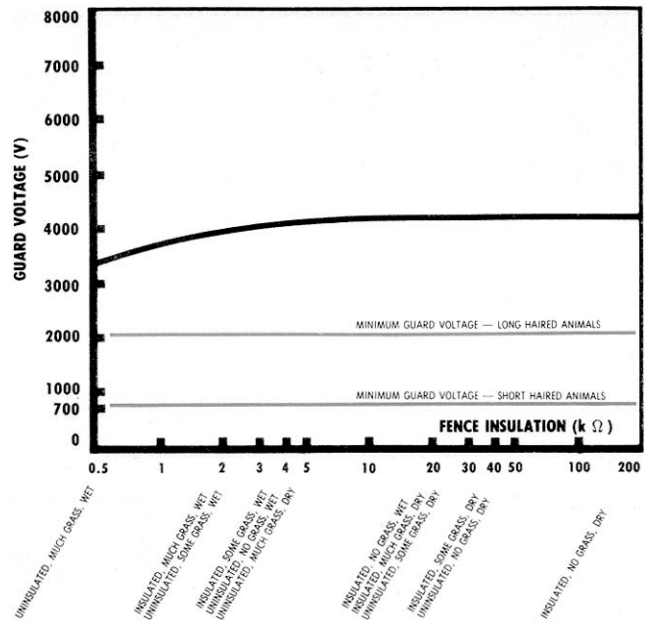

FIGURE 1. Guard Voltage Produced on a 5.4 km Single Wire Fence.
**Peak Voltage Output:** FIGURES 1 and 2 show peak voltage outputs of the BEE 7721 for a 5.4 and 16 km (3.3 and 10 mi) lengths of single wire fence over a range of insulation resistances. On a 5.4 km (3.3 mi) fence (FIGURE 1), peak voltage output varied from 4220 V for a well-insulated, grass-free, dry fence to 3390 V for an uninsulated, wet fence with considerable grass touching the charged wire. The voltage output for all fence conditions, was well above the 2000 V minimum guard voltage needed for long-haired animals. From FIGURE 1, it can be seen that the BEE 7721 can be satisfactorily used on this length of fence without wire insulators.
As can be seen from both FIGURES 1 and 2, plant growth touching a fence did not appreciably affect controller performance, since the voltage output was above 2000 V for all fence conditions. The BEE 7721 can be expected to operate well over a wide range of fence conditions.